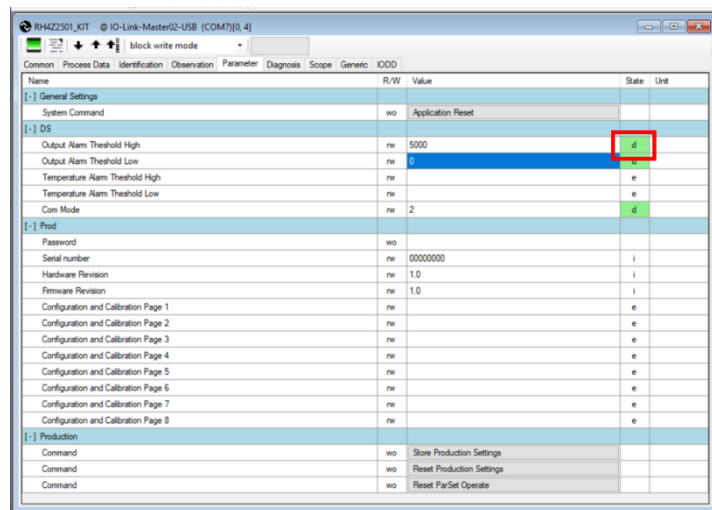

Figure 15. Parameter Transfer Status Verification
- d. Upon successful update, the state becomes green (see Figure 15).